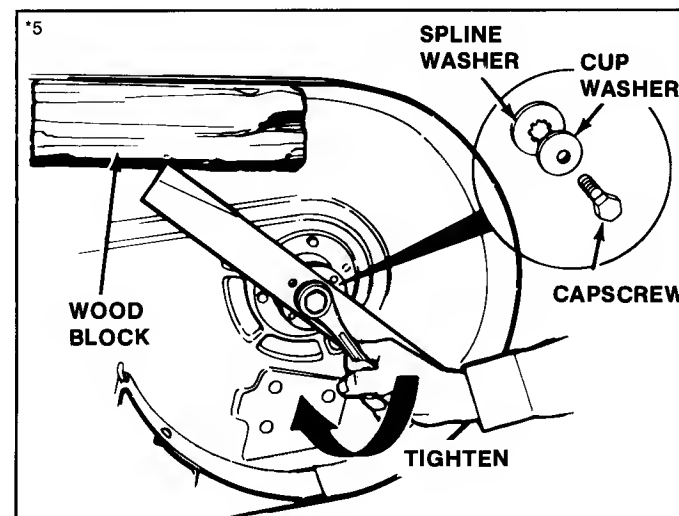

Figure 22. Installing Blade
6. Reinstall each blade with the tabs pointing up toward deck and secure with a capscrew, cup washer, and spline washer. Be sure all splines are aligned and washer is flush against blade. Make sure the cup washer is installed concave side up (toward mower deck). Use a wooden block as shown in figure 22 to prevent blade rotation and torque capscrew to 50-70 ft. lbs. (68-74 N.m).